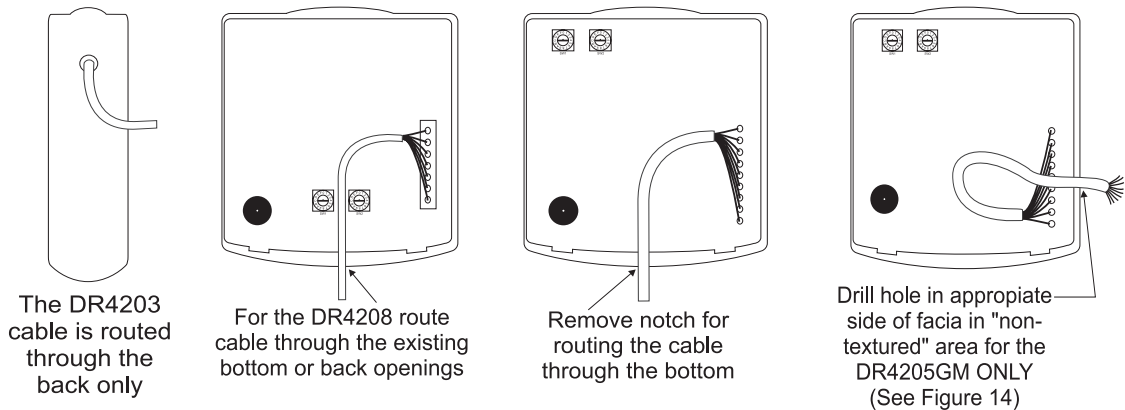

Figure 9: Cable Routing Configurations
1. S-Net cable on DigiReader may be routed from the back, bottom or the side of the DigiReader. The reader is pre-configured for cable installation through the back mounting plate. **Note:** S-Net cable is routed through the side on DR4205GM Reader only. (See Figures 9 and 14, below).
2. For readers other than DR 4205GM or DR 4203, remove the plastic notch from the bottom of the cover. A rattail file may be used to enlarge the opening (Figure 9).